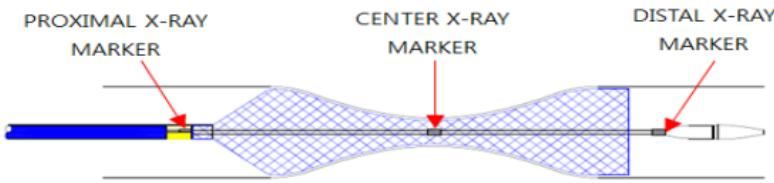

**Figure 4**
- When the center X-ray marker reaches the center of target stricture, continue pulling back on the Y-connector until the stent is fully deployed. (See figure 4, 5)
- When the center X-ray marker reaches the center of target stricture, continue forwarding toward the connector until the stent is fully deployed. (See figure 4, 6)